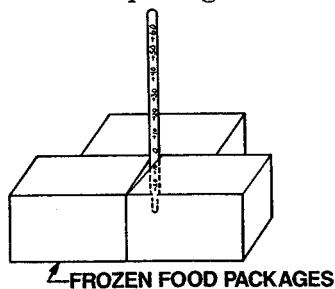

Figure 2.
e. In freezer section, put thermometer snugly between frozen food packages. See Figure 2.